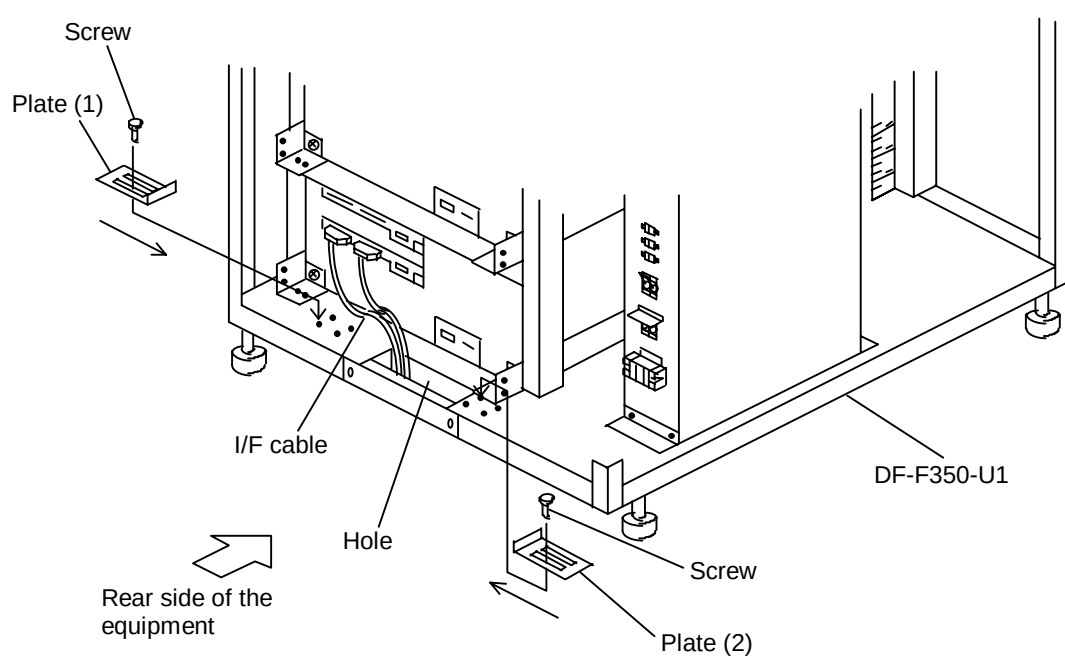

Figure 3.4.12 Fixing I/F Cable (Method '1')
3.4.10 Fixing I/F cables of subsystems (See Figure 3.4.12 and 3.4.13.)
(1) Fixing method '1'. (See Figure 3.4.12.)
- ① Loosen the screws, and remove plates (1) and (2).
- ② Pass the I/F cable through the hole onto the floor. Press plates (1) and (2) against the cable in the direction of the arrows (→), then tighten four screws.